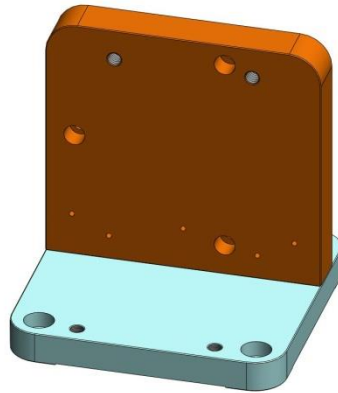

Figure 2.8. Bracket Mount on Bracket Base. Note orientation of counterbores in Mount, to identify proper assembly.
- Mate **Bracket Mount** to **Bracket Base**, using dowel pins to locate. Note orientation of counterbores in Figure 2.8. Insert mounting hardware. Torque screws to final spec.